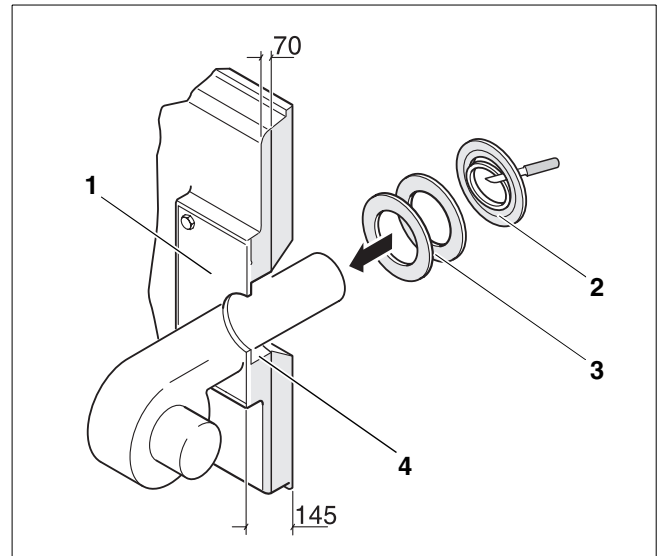

Fig. 32 Assembly – Fitting burner
- Bore, drill or flame-cut a hole in the steel burner plate (Fig. 32, **ref. 1**) to suit the diameter of the burner flame tube (max. Ø 270 mm) on site. Drill holes for fastening the burner in place to match the hole pattern in the burner connecting flange.
- Cut the inside diameter of the rings of insulating material to the diameter of the burner flame tube (Fig. 32, **ref. 2**).
- Fill the gap between the burner flame tube and the insulation on the burner door (Fig. 32, **ref. 4**) with the fitted rings of insulating material (Fig. 32, **ref. 3**).